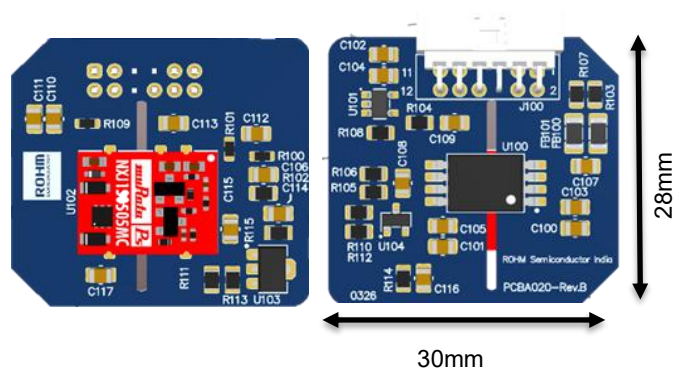

Figure 21. Sensing Board Top and Bottom View
- Attach voltage and current sensing boards to the appropriate input/output terminals as per the wiring diagram (Fig 21).